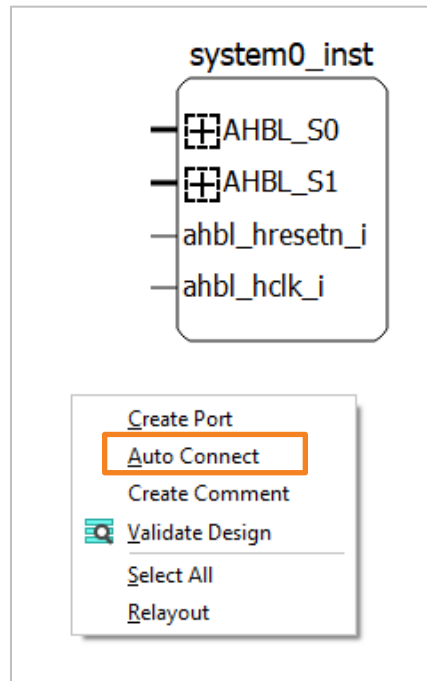

Figure 2.97. Action Menu of Right-clicking on a Blank
1. Right-click on Schematic view and choose **Auto Connect** (Figure 2.97). The Connect Ports dialog appears (Figure 2.98).